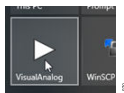

Figure 68. Opening VisualAnalog
- ▶ Open **VisualAnalog** (see Figure 68).